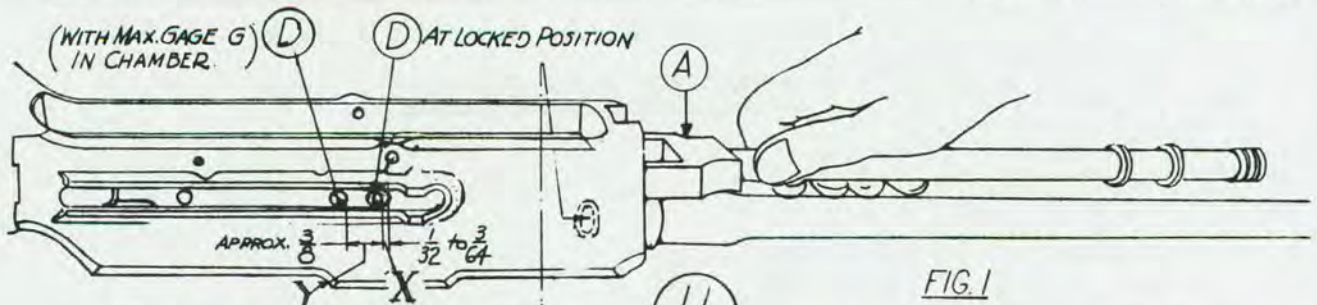
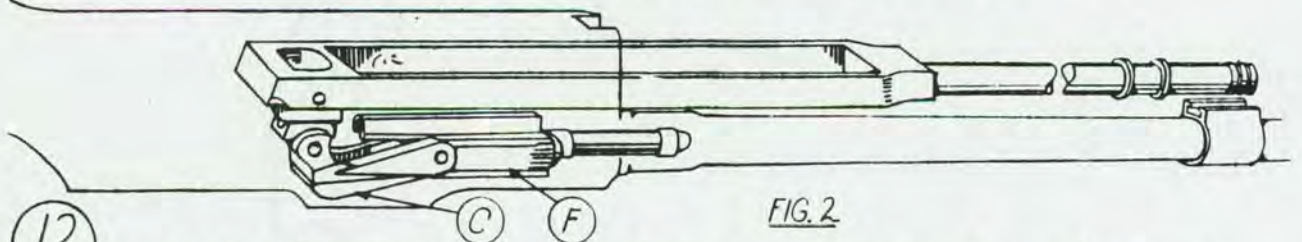

FIG. 1
FIG. 2
MOVE OPERATING SLIDE (A) TO REAR TO RETRACT BOLT. INSERT A 1.940" GAGE (B) IN BARREL AND PULL OPERATING SLIDE (A) FORWARD. THE BOLT LOCK (C) WILL GO INTO POSITION, FIG. 2. HAMMER PIN (D) SHOULD STAND AT LOCKED POSITION X, FIG. 1. MOVE SLIDE (A) TO REAR TO RETRACT BOLT (E). PARTS SHOULD SLIDE EASILY. REMOVE GAGE (B).
INSERT A 1.946" GAGE (G) AND PULL SLIDE FORWARD. BOLT LOCK (C) SHOULD NOT DROP IN RECESS OF RECEIVER (H), FIG. 3. HAMMER PIN (D) SHOULD NOW STAND A DISTANCE Y (APPROX. 3/8 INCH) REARWARD OF ITS LOCKED POSITION X, FIG. 1. WHEN THE HEAD SPACE IS EXCESSIVE DUE TO WORN BOLT, BOLT LOCK, OR WORN RECESS IN RECEIVER, SELECTIVE FITS OF ANY OF THESE PARTS MAY BE TRIED IN AN EFFORT TO COMBINE A UNIT HAVING SATISFACTORY HEAD SPACE. MODIFIED BOLT LOCKS WHICH TAKE AN ADJUSTING PLATE MAY BE USED - SEE FIG. 4. THEY ARE GROUND TO SUIT, IN JIG (C), SHEET 3.